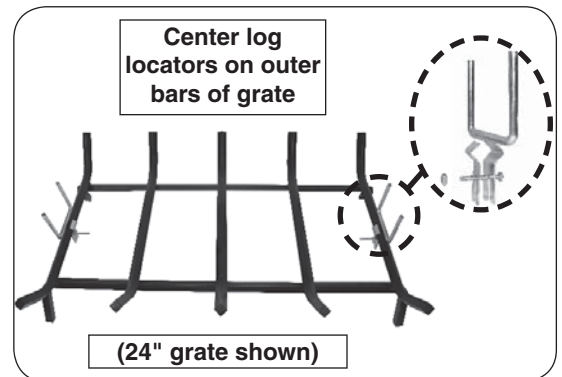

Fig. 17-2 Attach log locators to grate
1. Locate the grate (outside of the fireplace) and attach the log locators to the 2 outer bars of the grate using the provided screws and nuts (see Fig. 17-2).
The log locators should be positioned on the middle of the outer bars and oriented as shown in Fig. 17-2. Tighten the log locators in place.